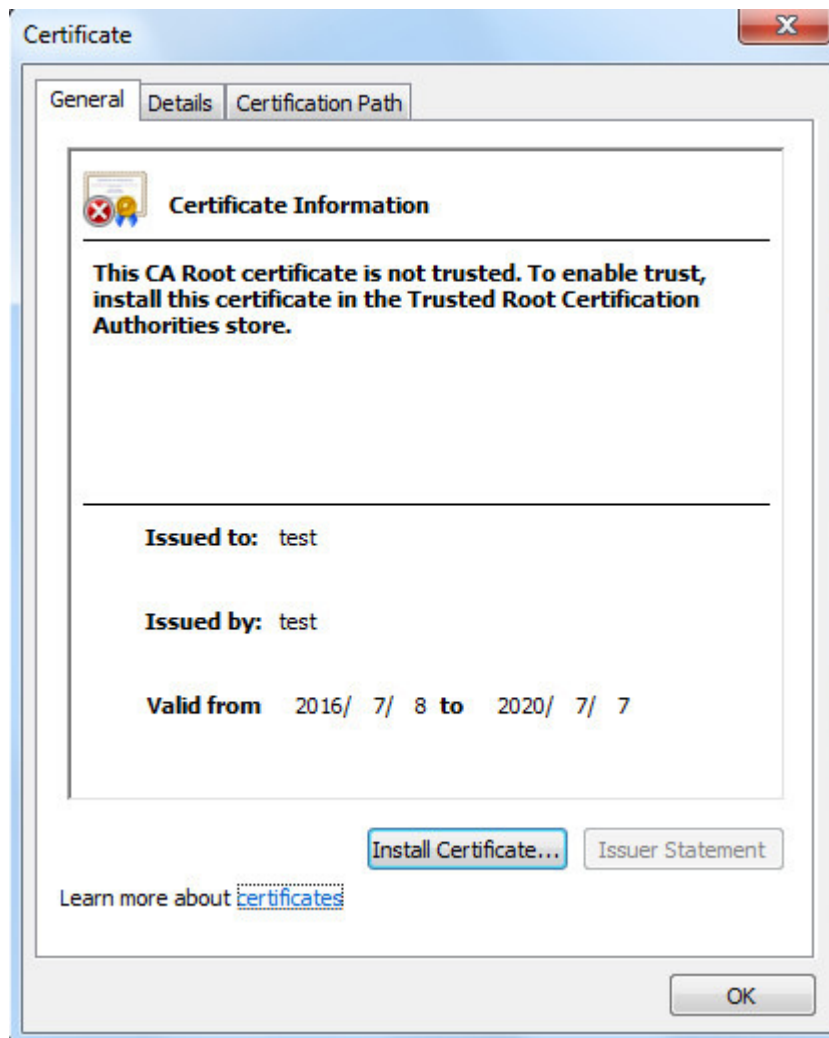

Figure 5-55
6. Double click the downloaded icon of "RootCert.cer". The system will display the information interface of "Certificate", which is shown in Figure 5-55.